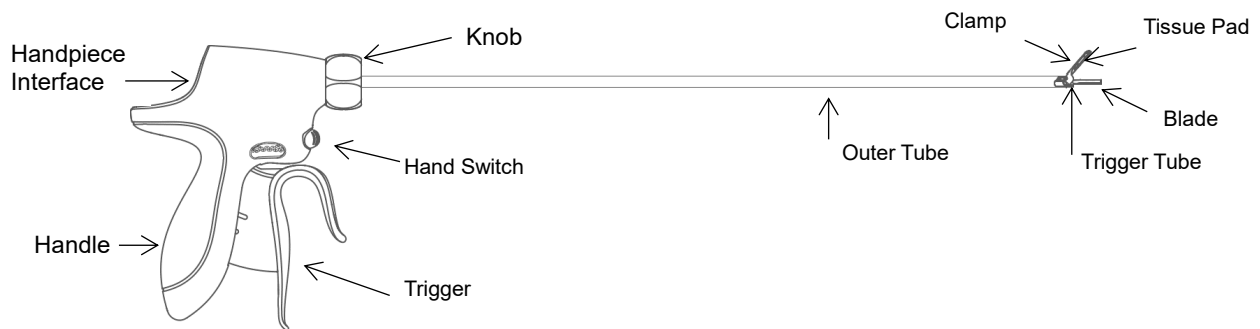

Figure 2 Construction of easyUS™ Single Use Ultrasonic Shears
① See Figure 2 for each part of easyUS™ Single Use Ultrasonic Shears